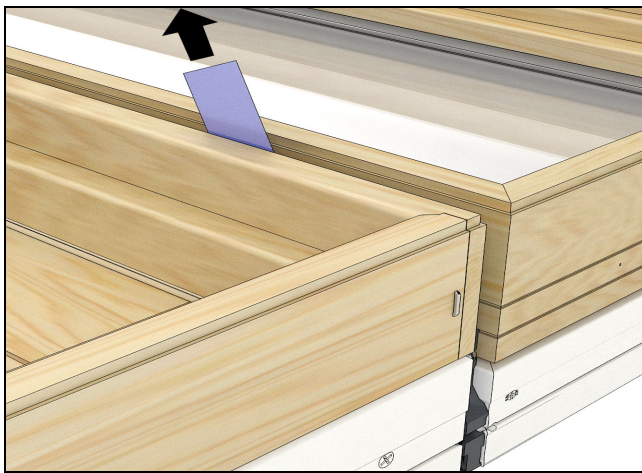

Figure 31
12. Ensure all components are aligned and the completely pull out tape backing from the MRF. See Figure 31.